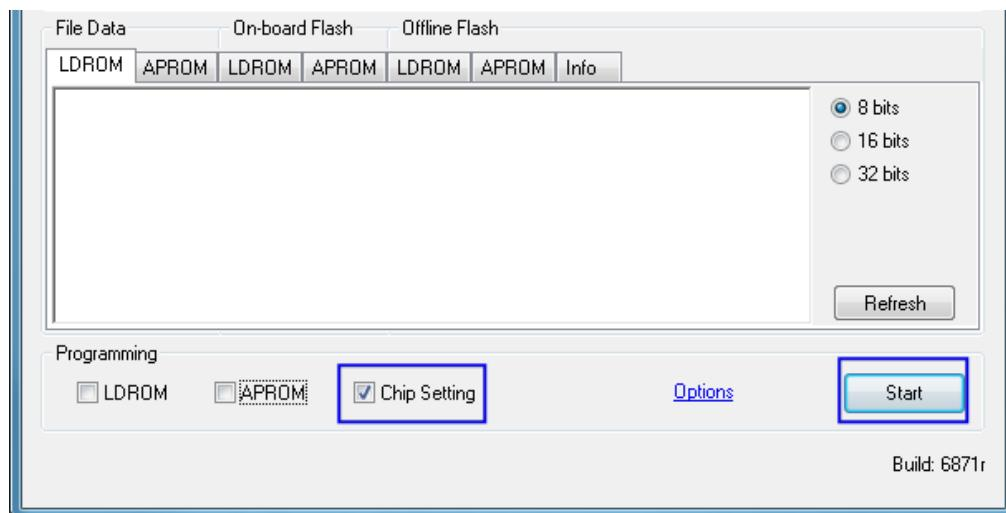

Figure 4-4 Start Programming
8. Select “**Chip Setting**” and click “**Start**” button to program XOM configure settings and enable XOM, as shown in Figure 4-4.